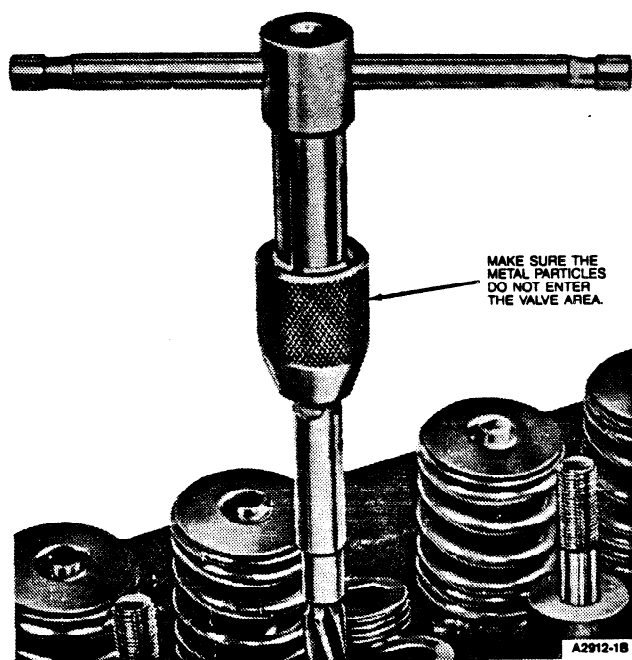

FIG. 5 Reaming Rocker Arm Stud — 4.9L (300 CID)
2. If a loose rocker arm stud is being replaced, ream the stud bore using the proper reamer (or reamers in sequence) for the selected oversize stud (Fig. 5). **Make sure the metal particles do not enter the valve area.**